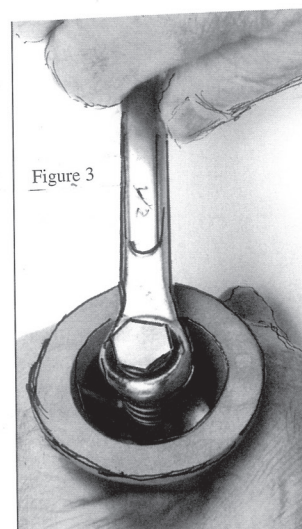

Figure 3
7. When check valve is out of the body grasp check valve disc holder and use a wrench or socket to unscrew the check valve stem from the disc holder. (Figure 3).